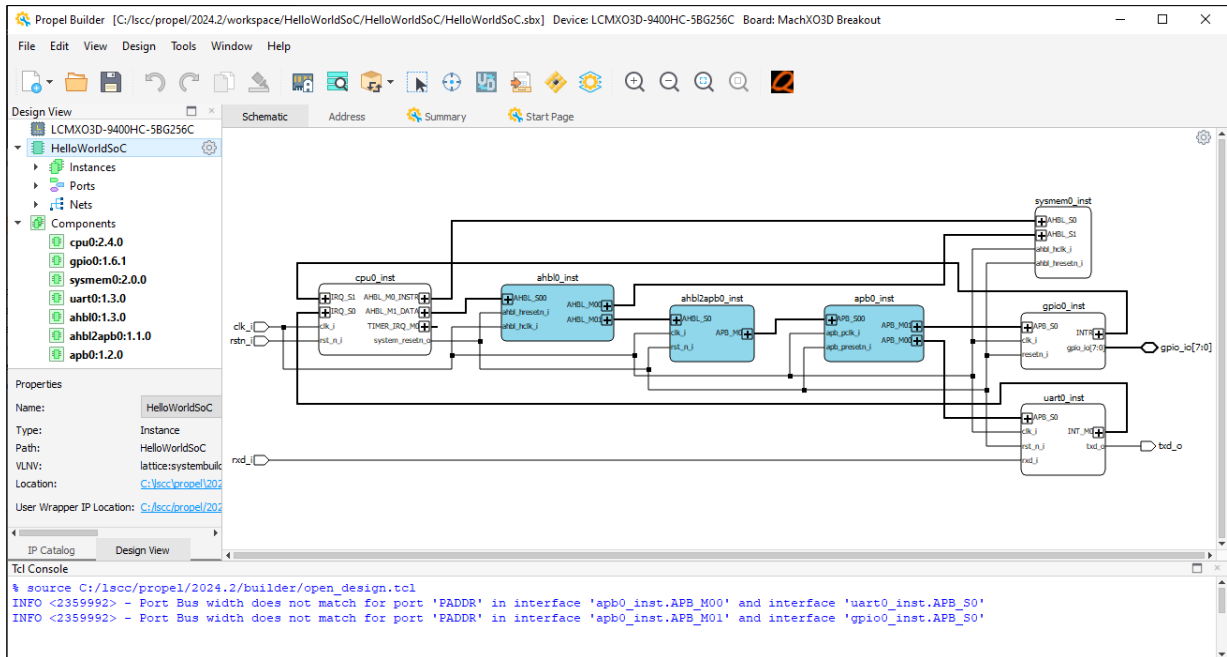

Figure 4.4. Lattice Propel Builder Window 2
4. The created SoC project can be found in the workbench. Its design is opened and displayed in Lattice Propel Builder for review (Figure 4.4).